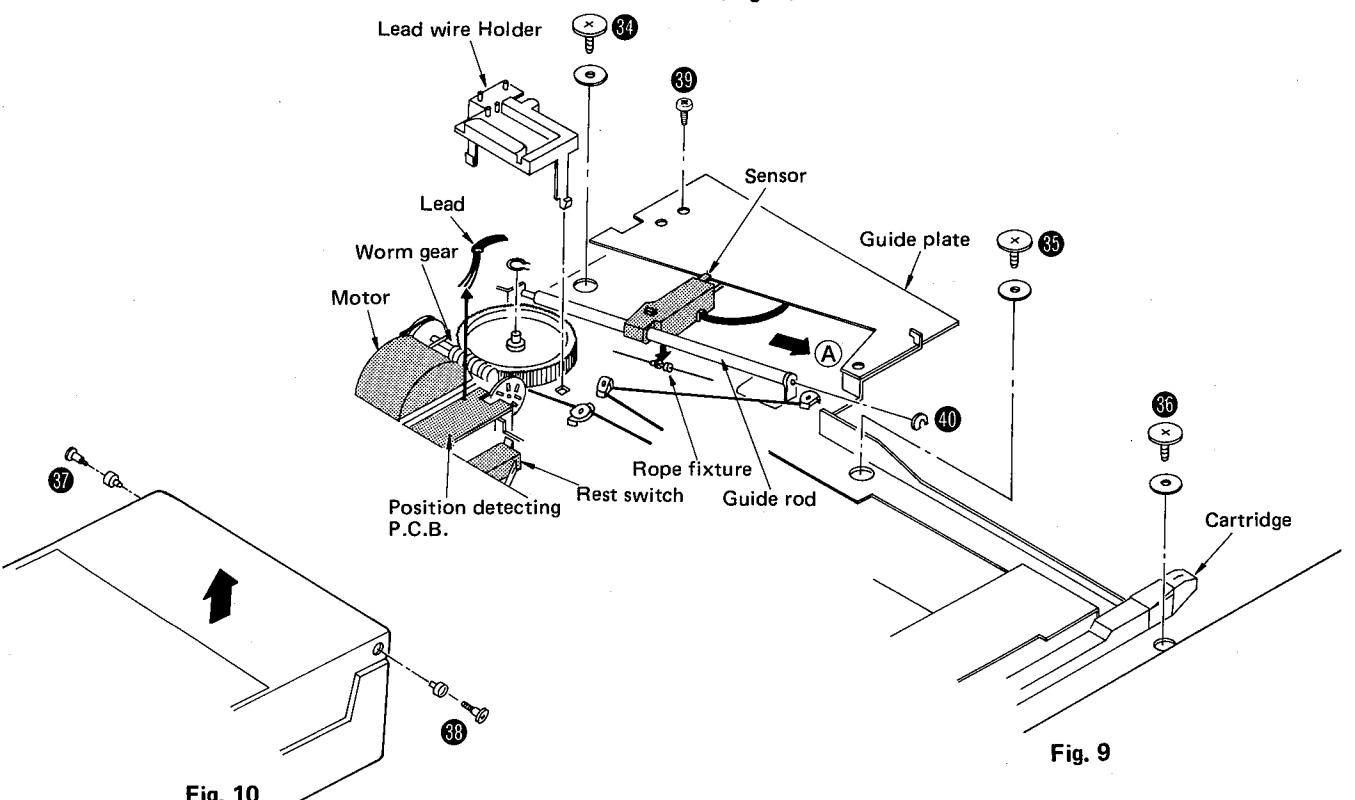

Fig. 9
3. Remove the 3 screws (Fig. 9 : 34 ~ 36) of the dust cover.
3. Remove the screw of the guide plate. (Fig. 9 : 39)
4. Remove the rope fixture of the sensor. (Fig. 9)
5. Remove the guide rod fitting clip (40) and remove the guide rod. (Fig. 9)
6. Pull out the sensor in the direction of the arrow (A). (Fig. 9)